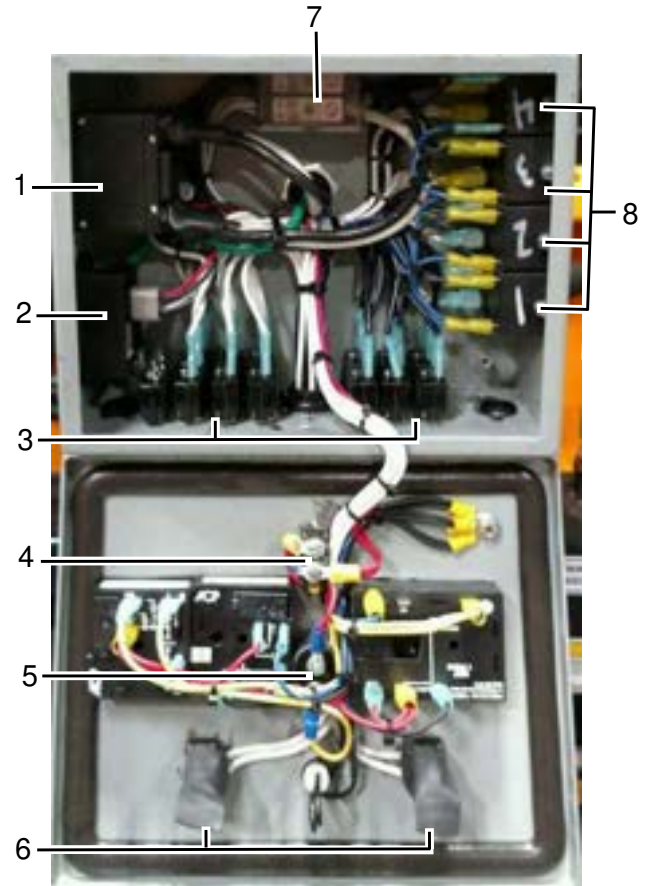

Figure 5-24. Electric Heat Elements
The electric heat control box contains the element breakers and main outputs for the screed heating system. Powered at 240 VAC, each element has two circuit breakers. **(Figure 5-24)** Refer to the electrical schematic in **Section 6** for detailed information.
The control box consists of the major components shown in **Figure 5-24**.
- Each element output consists of two wires--one connects to the L-1 circuit and the other to the L-2 circuit. **(Figure 5-24)**